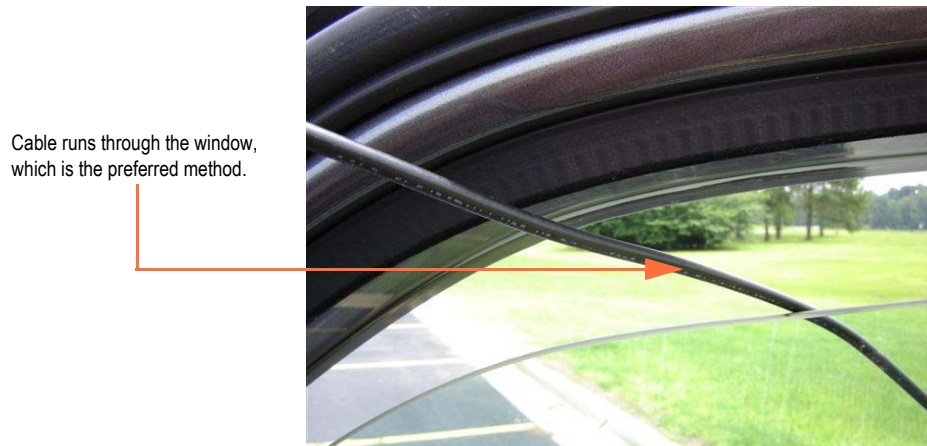

Figure 3.28 Antenna Cable Through Window
- 3 Route the antenna wire through the passenger window or through the door. See Figure 3.28. To prevent the cable from crimping, protect the cable as illustrated in the following figure.